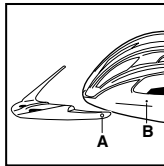

Figure 12
- 2 To replace the visor, center it on the helmet and then snap the pins (A) on the visor into the holes (B) in the helmet, Figure 12